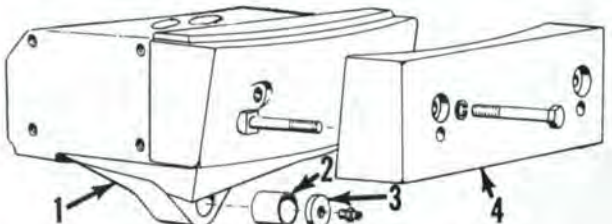

Fig. AC3—View of front support casting and related parts. Additional flat front weights can be bolted onto the weight shown.
To renew the pivot bolt or pivot pin, proceed as follows: Support tractor under the torque housing so that no weight is carried on the front axle. Then, remove the retaining bolt (R—Fig. AC1) and drive the front pivot pin out towards front of tractor. The plug (3—Fig. AC3) with lubricating fitting will be driven out with pin. Then, raise front of tractor until front support is clear of axle and drive bushing (2) out to rear with suitable driver. New bushing is pre-sized and should not require reaming if carefully installed. Install pivot pin and retaining bolt, then drive the plug (3) into front support with a hollow driver so that plug is flush with casting.
7. The front support (1—Fig. AC3) is a heavy one-piece casting. The front axle pivot bushing (2) and plug (3) can be renewed as outlined in paragraph 6 without removing the front support. To remove front support for other jobs, proceed as follows: Drain the cooling system. Remove hood and air cleaner to intake manifold tube. On Two-Twenty models, disconnect hydraulic lines to the oil cooler. On all models, disconnect both radiator hoses, then unbolt hood front support panels from side rails, and remove the panels, radiator and air cleaner as a unit. Disconnect front of steering cylinder from steering arm (15—Fig. AC1). Support the tractor under torque housing so there is no weight on front axle pivot pin. Attach a hoist to front support at lifting point provided, remove cap screws retaining side rails to front support and remove the front support from side rails and front axle pivot pin. NOTE: If front support casting binds between the side rails, loosen the bolts retaining side rails to engine front support plate. Any front end weights attached to front support casting should be removed before unbolting and removing the front support.